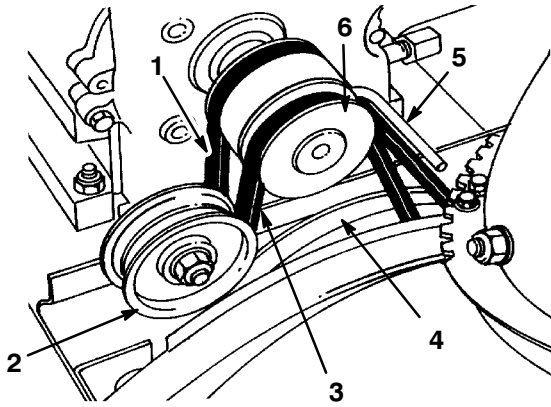

Figure 23
1. Screw (2)
4. Loosen the belt guide (Fig. 23).
- Remove the auger/impeller drive belt from the engine pulley and the large auger/impeller pulley (Fig. 23).
- Remove the traction drive belt from the engine pulley and the large traction pulley (Fig. 23).
- Loop the belt over the engine pulley, making sure that the belt is on the inside of the belt guide (Fig. 23).
- Install the auger/impeller drive belt around the large auger/impeller pulley and engine pulley, making sure that the belt is on the inside of the idler pulley and belt guide (Fig. 23).
If the auger/impeller drive belt (Fig. 23) becomes worn, stretched, oil-soaked, or otherwise damaged, replace the belt. You can obtain a new belt from your Authorized Service Dealer.
- Loosen the belt guide (Fig. 23).
- Install a new belt around the large auger/impeller pulley (Fig. 23).
- Loop the belt over the engine pulley, making sure that the belt is on the inside of the idler pulley and the belt guide (Fig. 23).